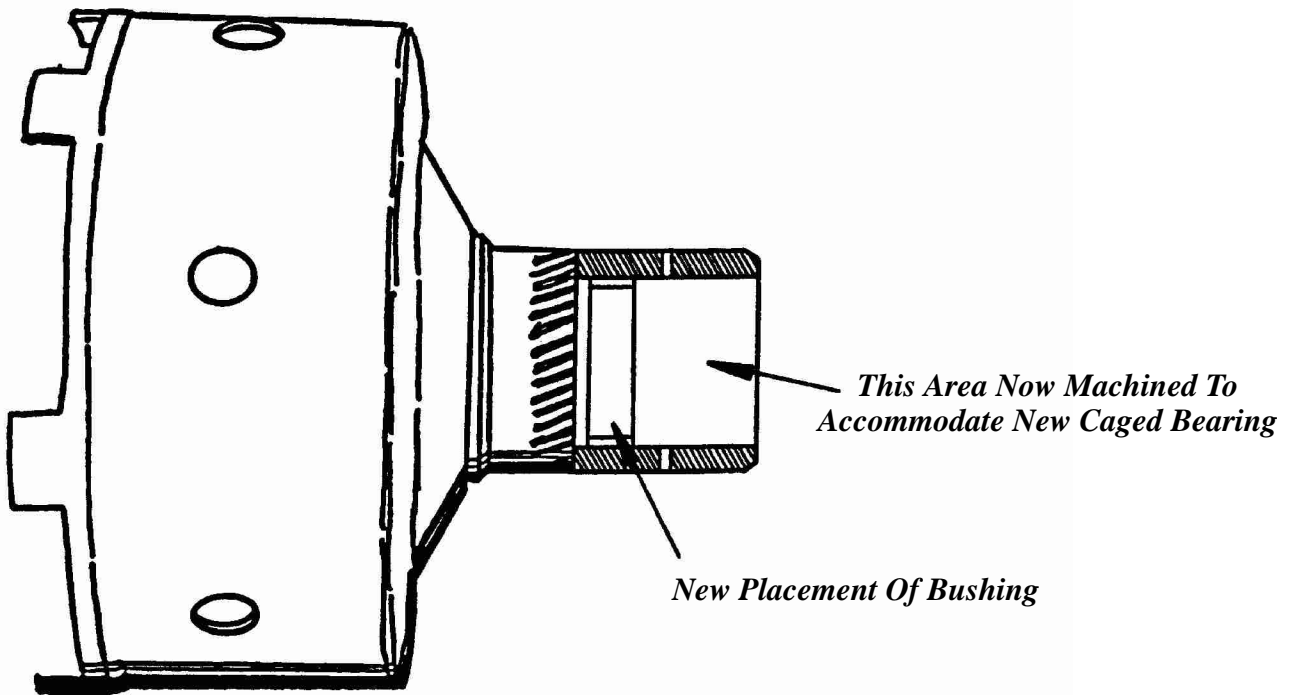

Figure 63
- (2) SUN GEAR AND SHELL ASSEMBLY - Single bushing is now located in front of the lube holes in the sun gear, and the area behind is now machined to accommodate the new caged needle bearing, as shown in Figure 63.